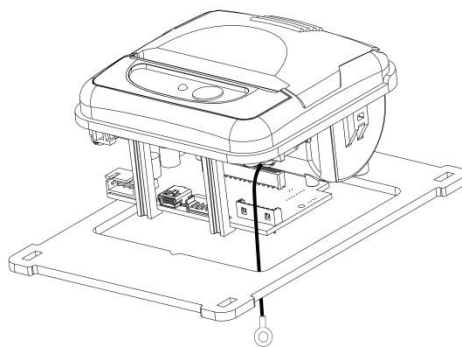

Figure 5
- 10) Set the assembly aside, and fit the mini-printer into the top plastics as shown in Figure 5, ensuring the earth strap is fed through the aperture. NOTE the position of the notch at the **front** of the top plastics